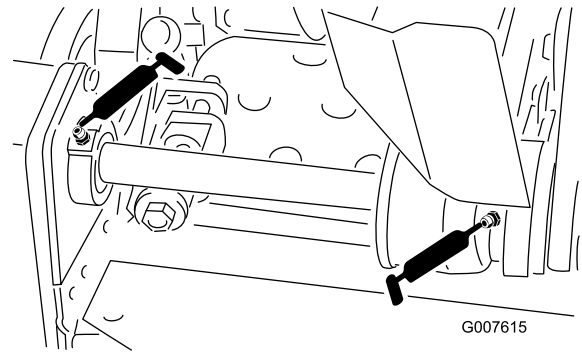

Figure 13
- 2 on the reel countershaft bearings (Figure 13)